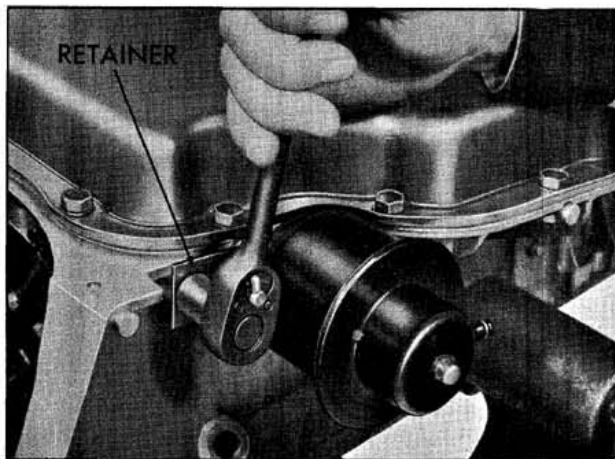

Fig. 6-29 Removing Modulator Retaining Bolt
4. Remove modulator assembly attaching bolts and retainer. (Fig. 6-29)